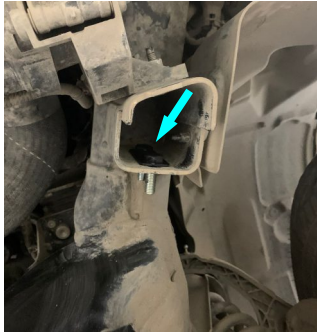

Fig. 1
1. Install insert nuts M10 (item B) on both sides as shown in fig.1.
3. Install insert nut M10x65x20 (item A) as shown in fig.1.